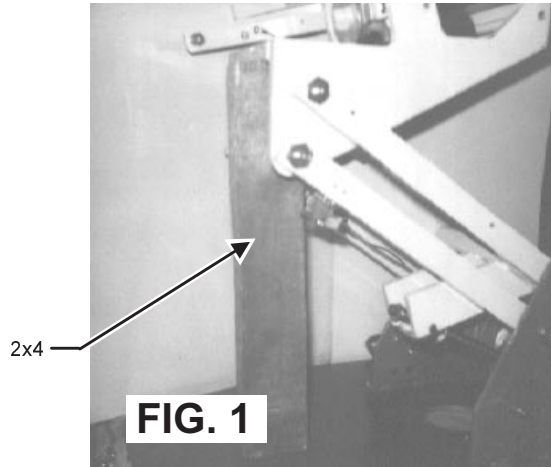

FIG. 1
2. Remove (5) plastic covers to expose the base motor as shown Figure 1.
4. Prop the chair up by using a wooden 2x4 cut to approx. 21 inches long. See Figure 1.